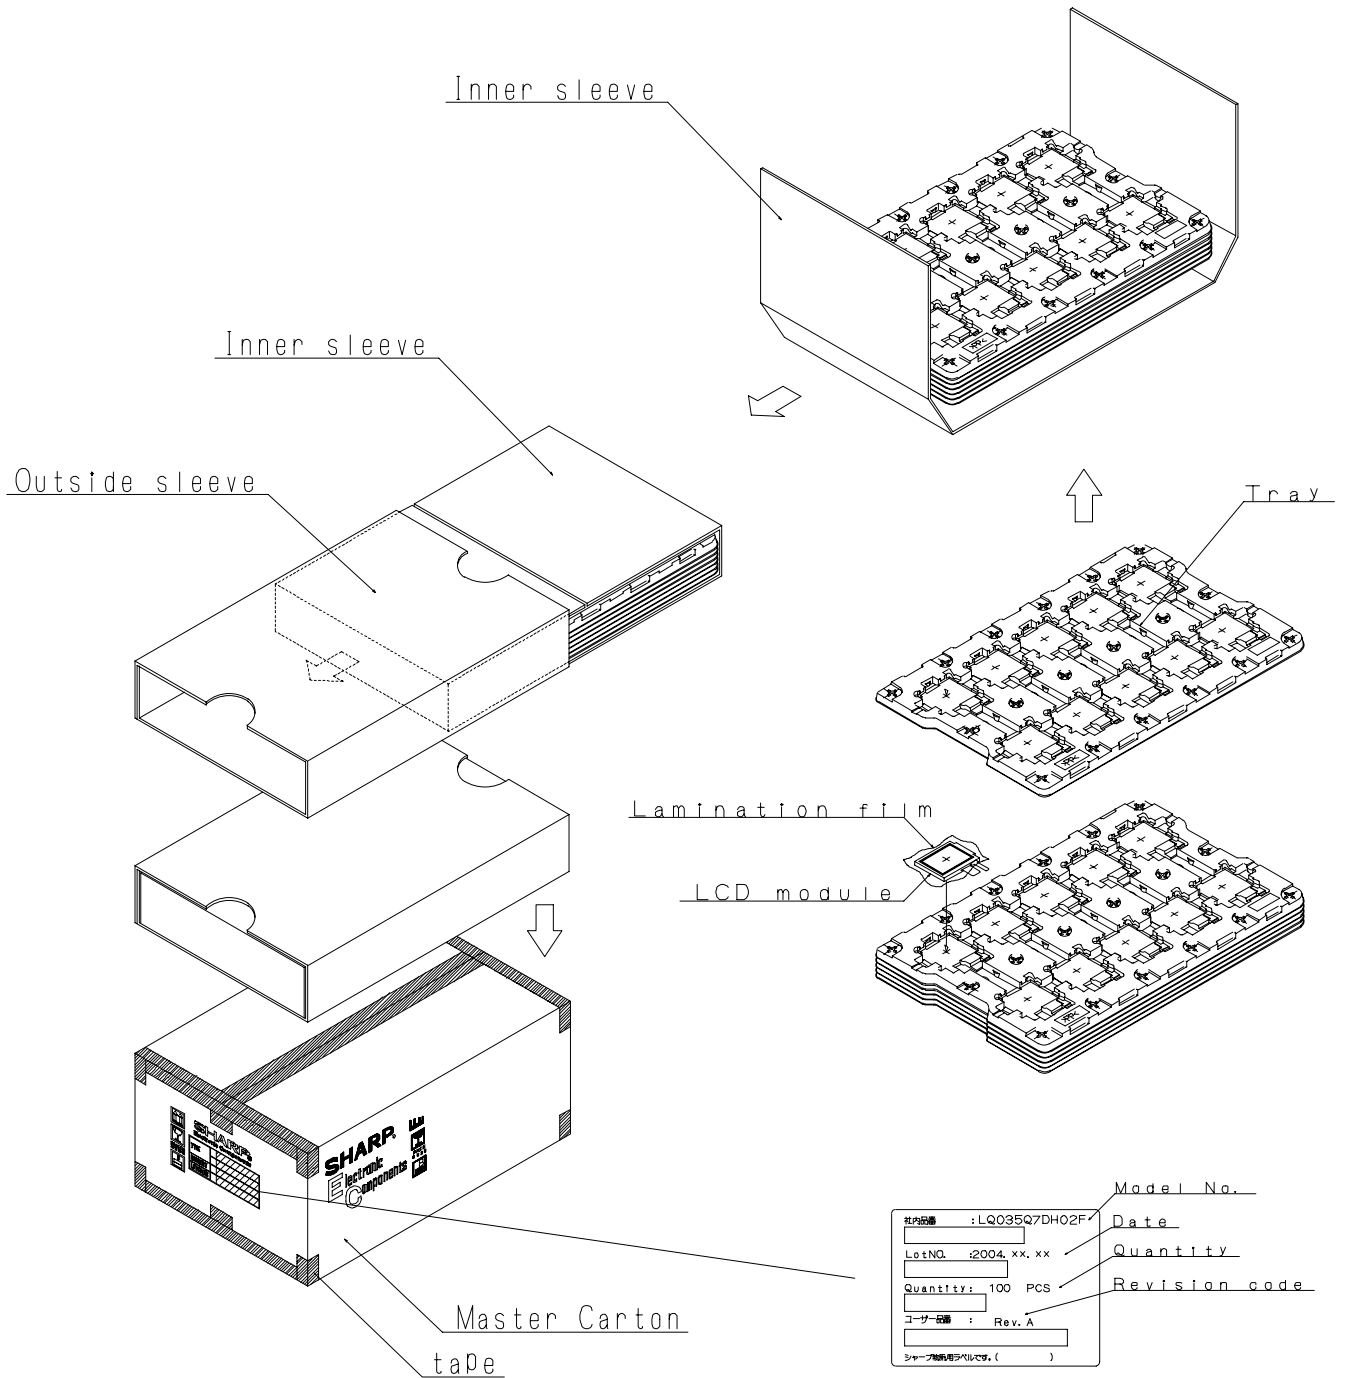

Fig. 3 Forwarding form
16) Forwarding form (see Fig. 3 Package Form)